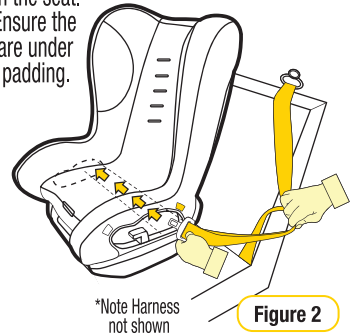

Figure 2
Step 2: Feed adult lap or lap/sash belt through the belt path opening, ensure the seat belt is under the cover & between the layer of foam and the plastic seat base. (refer Figure 2 & 3).